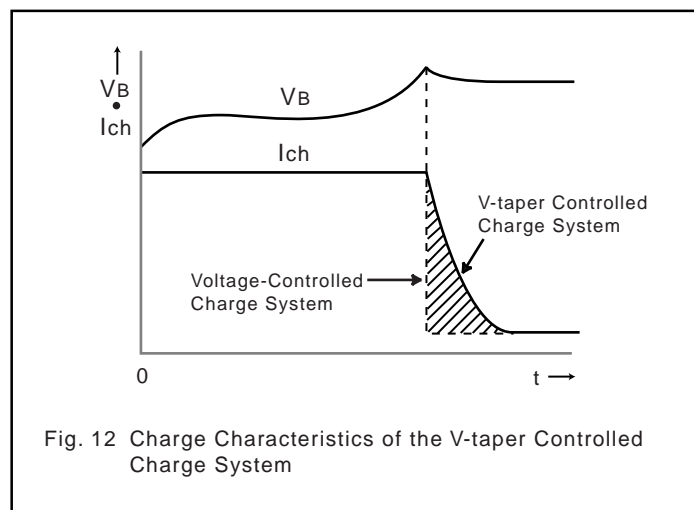

Fig. 12 Charge Characteristics of the V-taper Controlled Charge System
- In comparison with the voltage-controlled charge system, this method is capable of increasing the charge level by the amount indicated by the shaded area in Fig. 12. However, just as for the voltage-controlled charge system, the setting of the detection voltage is extremely difficult when charge Ni-Cd batteries.